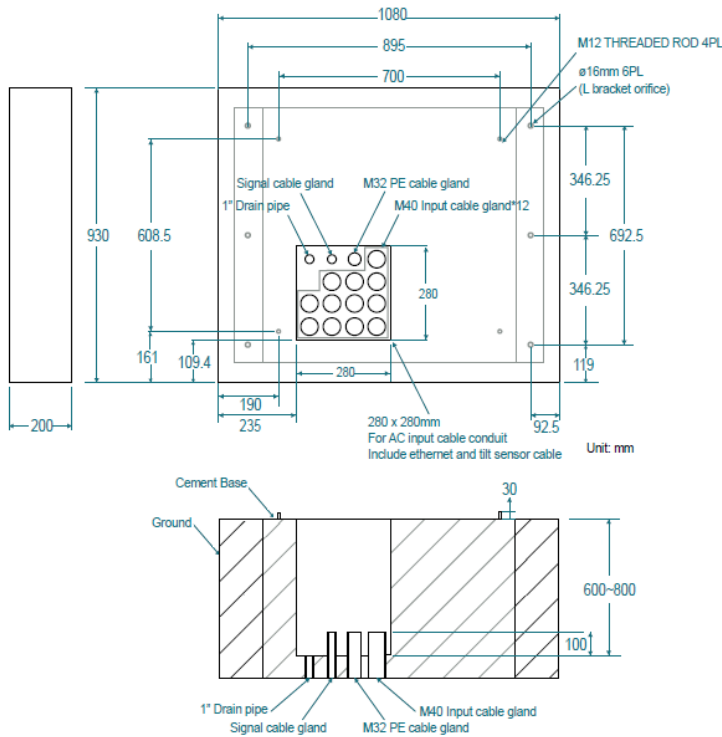

Figure 3-3. Installation Dimensions
3) Attachment method 1: Install four M12 threaded rods at a length of 1.57 in (4 cm) per figures 3-3 and 3-4. The threaded rods need to be installed within the following tolerance of the screw holes on the EVSE:
It is recommended to create or use a metal match-drill plate, per figures 3-3 and 3-4, to ensure proper placement of threaded rods and holes.